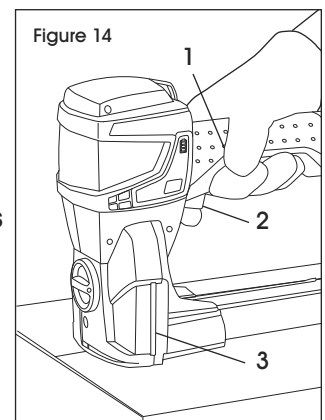

Figure 14
2. Pull the safety latch (1). (See Figure 14)
3. Actuate the trigger (2).